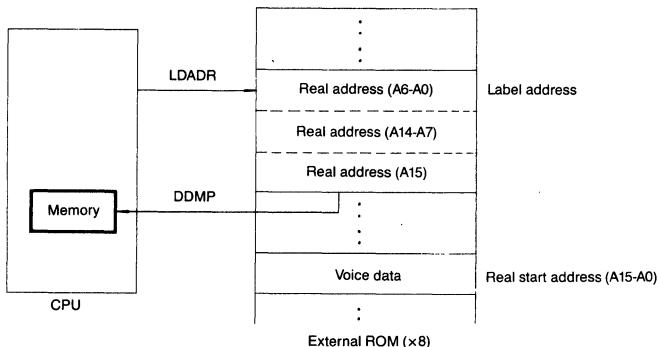

Fig. 8 Setting the label address
- The real start address must be stored in the format shown in Fig. 8 & 9. The LSB (b0) at the label address should be excluded in storing the start address. As the KS5901A has the addressing range of A0-A15, the last byte only contains one bit address data of A15 at the LSB (b0) and the other bits (b7 ~ b1) become dummy data. (see appendix)
- The control procedures are explained as follows. (refer Fig. 8 & 9)